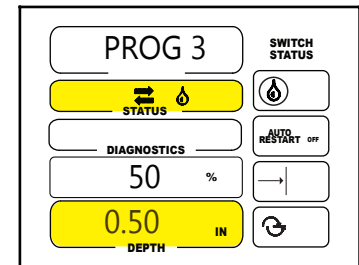

Figure 61-2
3. Set water on and depth of water for the sector. See figure 61-2.